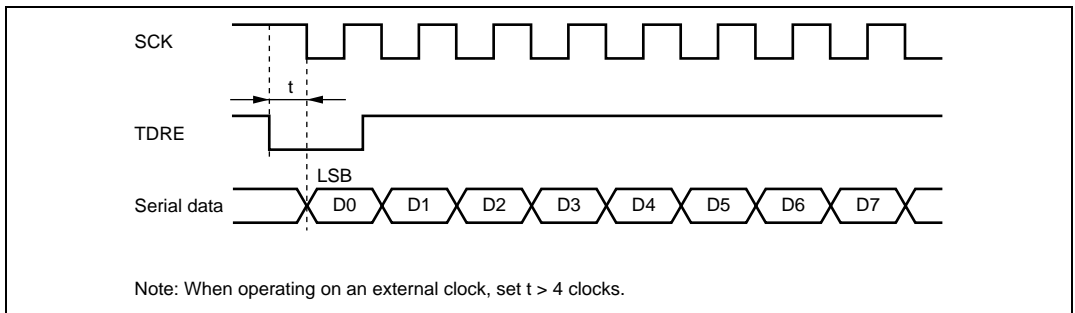

Figure 13.36 Example of Clocked Synchronous Transmission by DTC
- When an external clock source is used as the serial clock, the transmit clock should not be input until at least 5ϕ clock cycles after TDR is updated by the DTC. Misoperation may occur if the transmit clock is input within 4ϕ clocks after TDR is updated. (Figure 13.36)